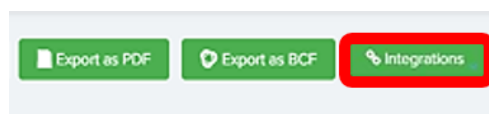

FIGURE 18: INTEGRATIONS
- Select **Integrations** (Figure 18)